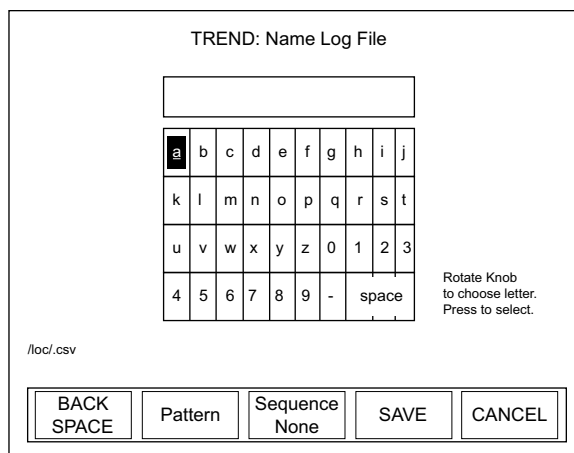

Figure 4-22. TREND: Name Log File
1. Press the CREATE FILE soft key on the TREND screen to display the TREND: Name Log File screen (Figure 4-22):